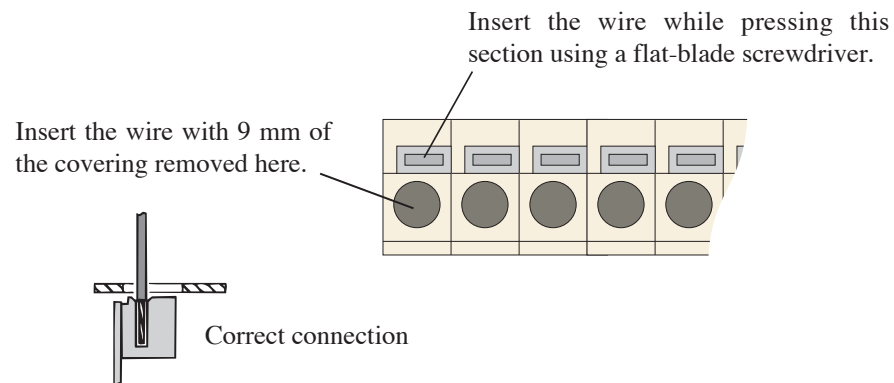

Fig. 4-3 Connection to the control terminal block
3. As shown in Fig. 4-3, insert the wire into the control terminal block.